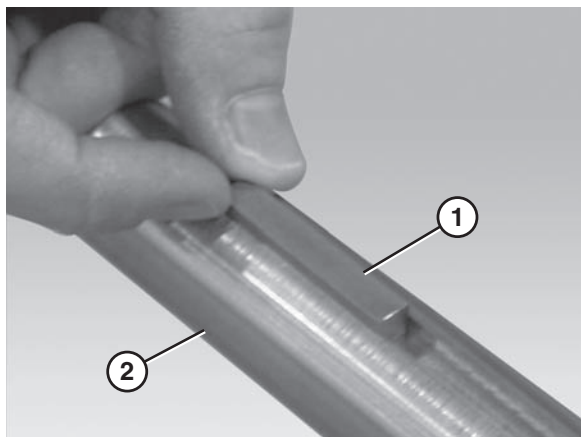
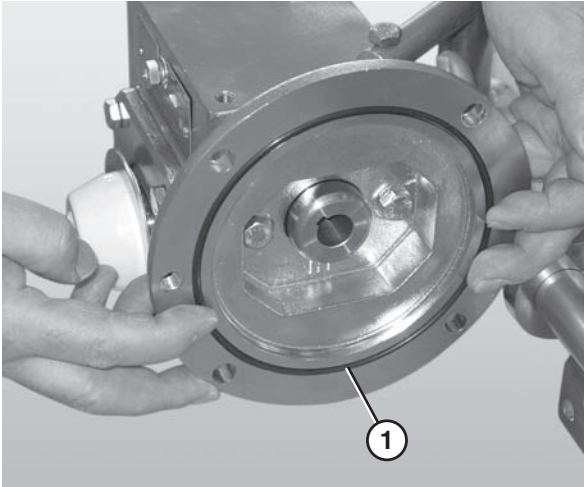

Figure 17
Figure 18
8. Insert the gearmotor output shaft key (**Figure 17, item 1**) into the gearmotor output shaft keyway (**Figure 17, item 2**).
Ensure the O-ring (Figure 18, item 1) and gearmotor output shaft key (Figure 17, item 1) are situated properly before attaching the motor to the gear reducer.